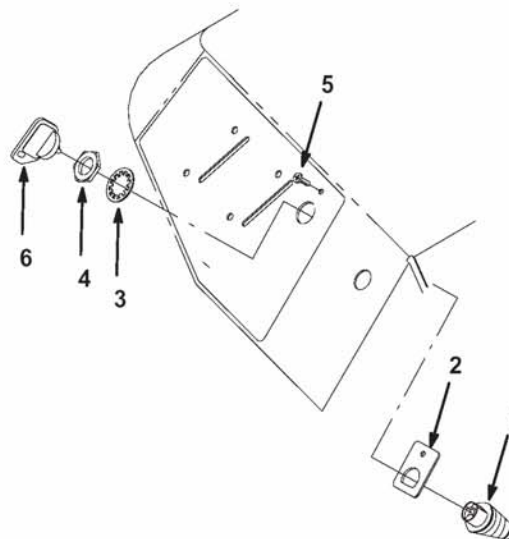

Figure 3
10. Insert the switch plate onto the key switch (Fig. 3).
11. From the underside of the fender, insert the key switch w/ switch plate into the hole (Fig. 3).
12. Loosely mount the switch and the switch plate to the fender with the star washer and the jam nut provided with the switch (Fig. 3).
13. Align the hole in the switch plate with the pilot hole in the fender. Secure the switch plate to the fender with the screw provided (Fig. 3).
14. Tighten the nut securing the key switch to the fender (Fig. 3).